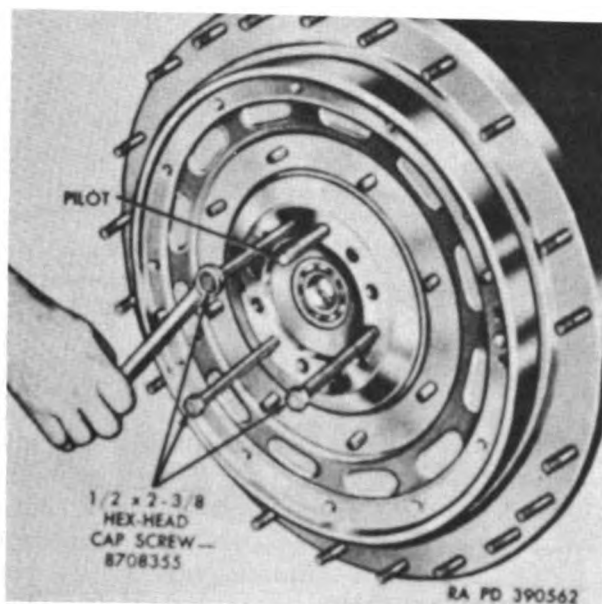

Figure 58. Removing flywheel (model AOSI-895-5M engines only).
(2) Remove flywheel.
- (b) Cut the head from a $\frac{1}{16} \times 3$ (or longer) hex-head bolt and screw bolt into uppermost mounting bolt hole in crankshaft flange as shown in figure 58. The bolt will act as a pilot to support flywheel when removed from dowel pins.
- (c) Remove flywheel from crankshaft dowel pins using three hex-head screws 8708355 (fig. 58). Remove pilot bolt and place with tools.